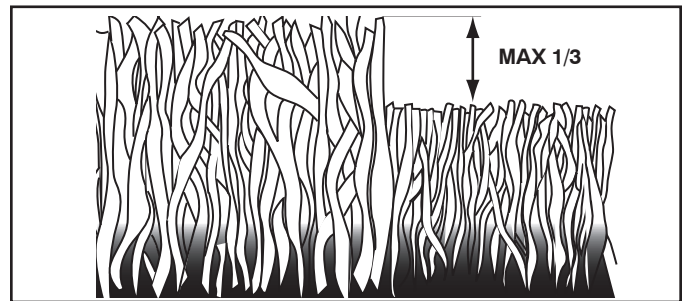

Fig. 28
- For best results, adjust the mower cutting height so that the mower cuts off only the top one-third of the grass blades (See Fig. 28). For extremely heavy mulching, reduce your width of cut on each pass and mow slowly.